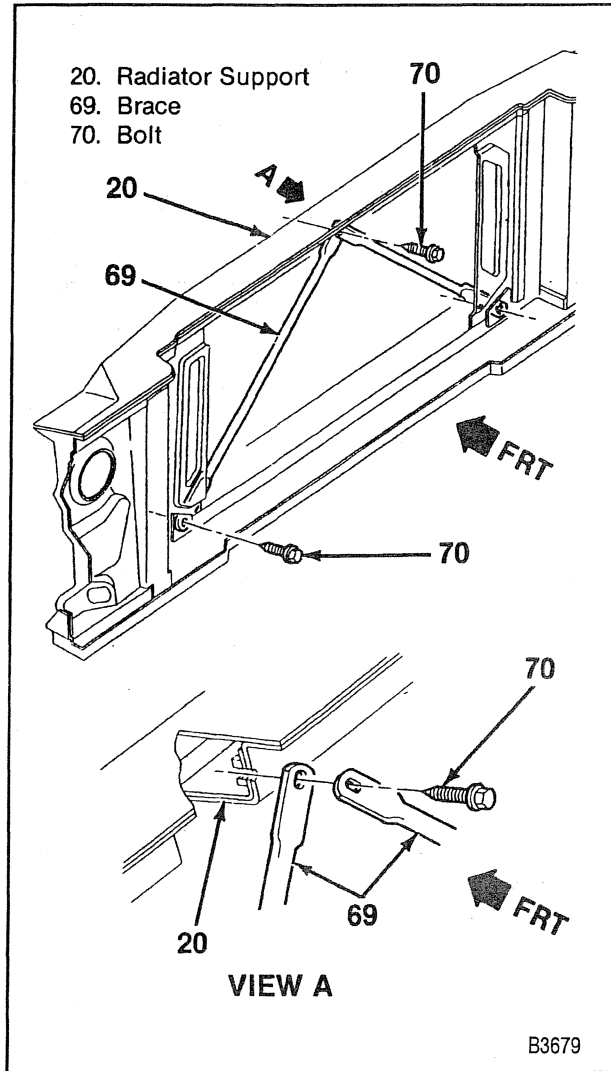

Figure 24—Radiator Support Braces
22. Support braces from the support (figure 24).
- Place the top of the left brace between the support and the right brace (figure 24).